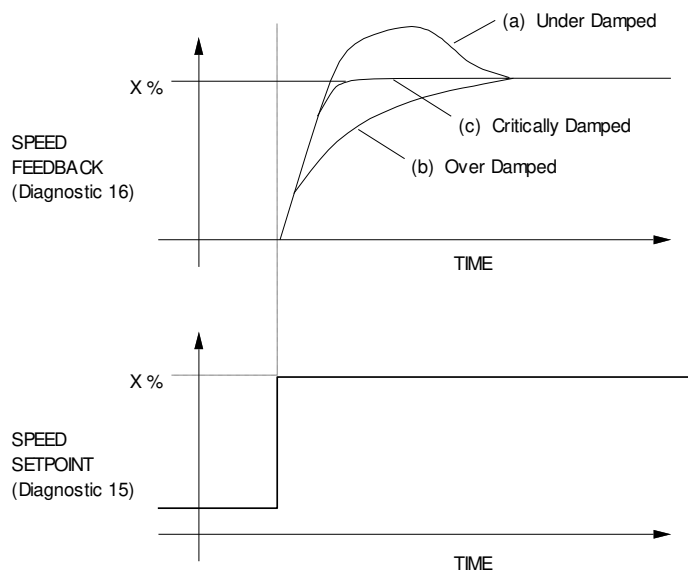

FIGURE 4. TYPICAL SPEED RESPONSE CURVES
- Reconnect the supplies switch on and initiate “Run”. Apply a small set change (about 20%) to the Speed Setpoint input and observe the speed response. If necessary adjust the Speed Proportional and Speed Integral presets (P3 and P4) gradually to obtain a Critically Damped performance, i.e., the fastest response possible without overshoot, as shown in Figure 4, Curve (c). In general, clockwise rotation of the presets will improve the rate of response, but advancing the controls too far will tend to introduce overshoot. The optimum setting of P3 and P4 will be a compromise between the two extremes shown in Curves (a) and (b), Figure 4.